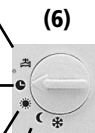

Abb. 1
The heater is switched to frost protection at 6 °C. The domestic water is heated up in dependence of the programmed switching times. In daily operation (see fig. 1), the setting on rotary switch (4) controls the temperature of the domestic water. In reduced operation, the domestic water is only heated up if it drops below a temperature of +10 °C.
The programmed times on the clock determine the period of the day ☀ / reduced temperature ☾ in the room. In daily operation (see fig. 1), the setting of the rotary switch (4) controls the temperature of the domestic water. In reduced operation, the domestic water is only heated up if it drops below a temperature of +10 °C.